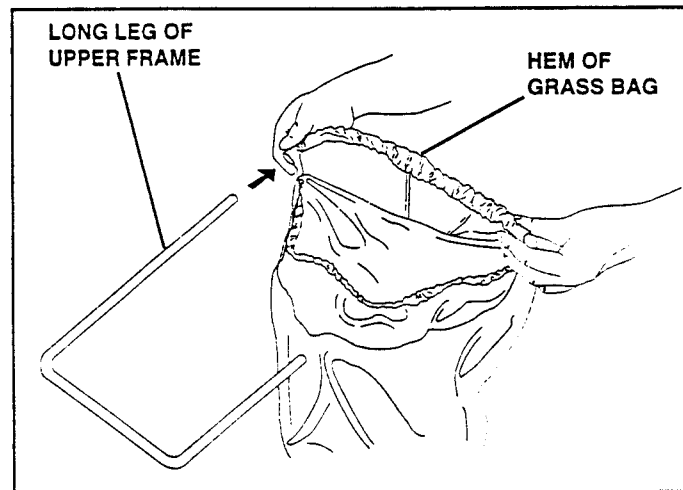

FIG. 1
- Thread long leg of upper frame into right hand side of hem in grass bag as shown. Gather entire bag on the long leg of frame first, then, slide bag around back and left side of frame (see Figs. 1 & 2).